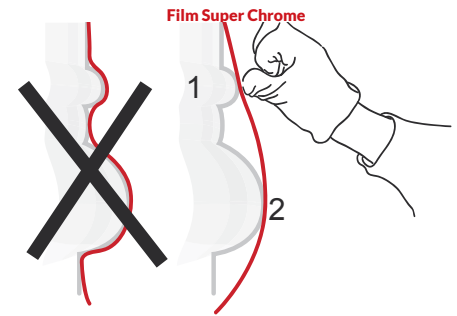

Figure 09
- › Stretch the vinyl onto the substrate so that it touches the raised surface. ((FIG. 09) ① and ②)